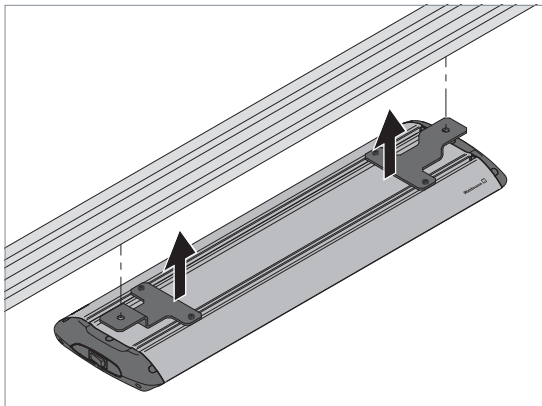

Fig. 8: Mounting the luminaire of mounting type "Top, fixed", 1st option.
- Mount the luminaire on the mounting surface using suitable screws and tighten the screws, see Fig. 8 or see Fig. 9.